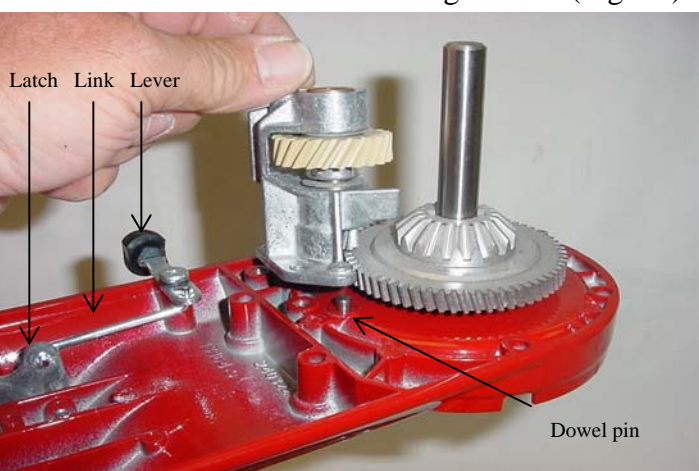

Fig. 58 The two dowels must fit into the base of the worm gear bracket.
J. Place the worm gear assembly and bearing bracket on the bottom cover so that the two dowels will fit into the base of the bearing bracket (Fig. 58).
K. Check the latch, link and lever assembly. There should be no wear or trouble with this assembly (Fig. 58).